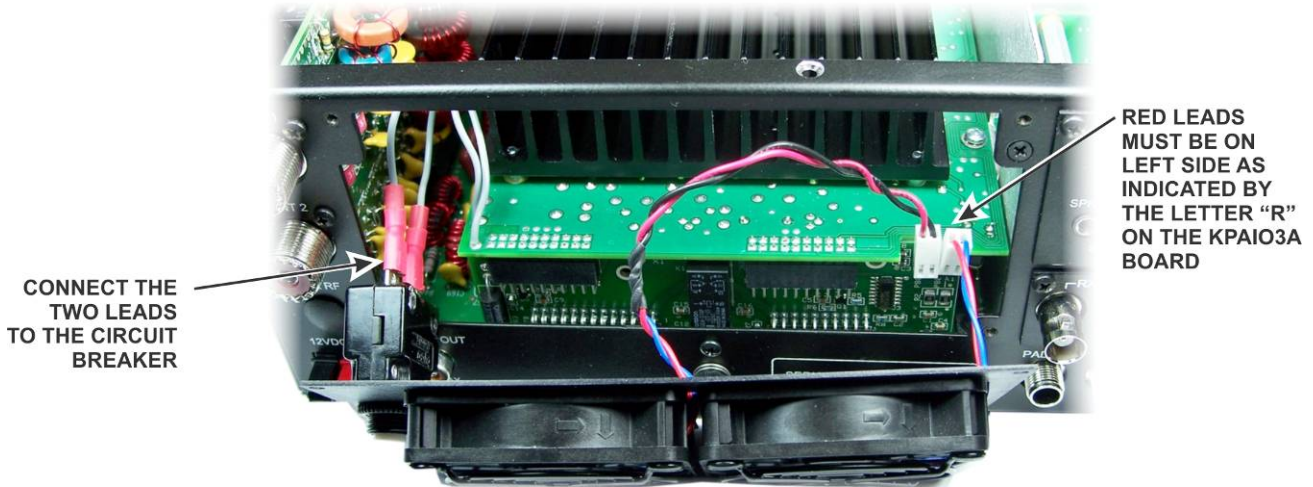

Figure 16. Connecting Fan Panel.
□ Position the fan panel you assembled earlier behind the opening at the rear of the K3s/K3 and connect the leads as shown in Figure 16.